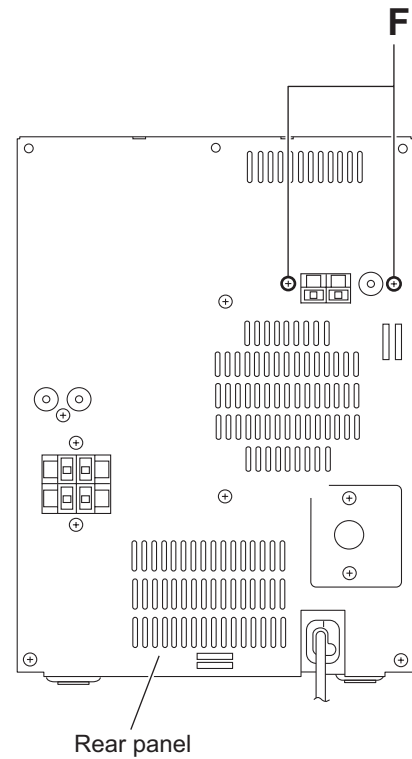

Fig.12
3.1.5 Removing the tuner (See Figs.12 and 13)
- (1) From the back side of the main body, remove the two screws **F** attaching the tuner to the rear panel. (See Fig.12.)